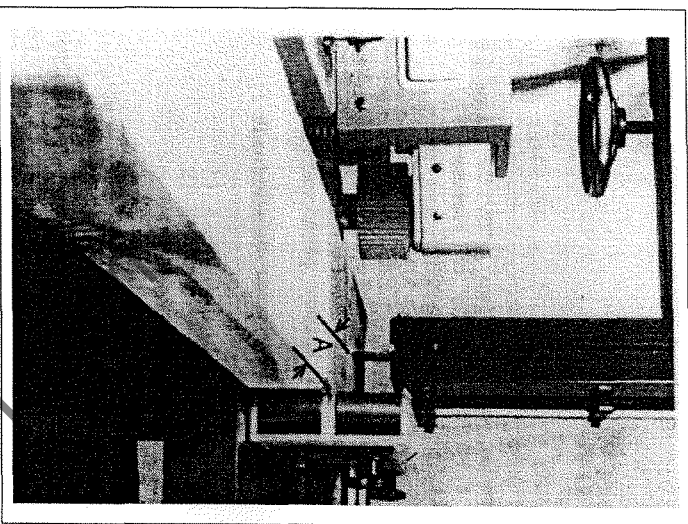

Fig 32
- a) Wide shallow stock (FIG 32).
4. Set fence to finished stock width required (See 'A' FIG 32).